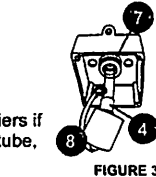
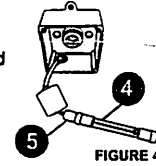
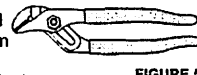
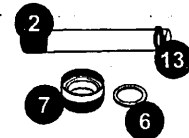

FIGURE 3
FIGURE 4
FIGURE 5
FIGURE 6
- Remove the black lamp boot (8) by sliding it over the cable away from the quartz seal compression nut (7), Figure 3.
- Slowly remove the UV lamp (4) out of the quartz tube.
- Remove lamp socket (5) from the UV lamp (4), Figure 4.
- Remove the quartz seal compression nut (7) by turning it **counterclockwise**, Figure 3. Use a pair of channel-lock pliers if needed, Figure 5. You will notice that there is a stainless steel compression washer (6) which slides over the quartz tube, save the washer (6) for later use, Figure 6. There is also a black seal ring (13), grasp the black seal ring; slowly and carefully remove the quartz tube.
- Now you are ready to clean or replace the quartz tube (2). For the cleaning quartz tube (2), follow steps 8 and 9 then proceed from step 10. For replacing quartz tube (2), skip steps 3 and 9 and proceed from step 10.